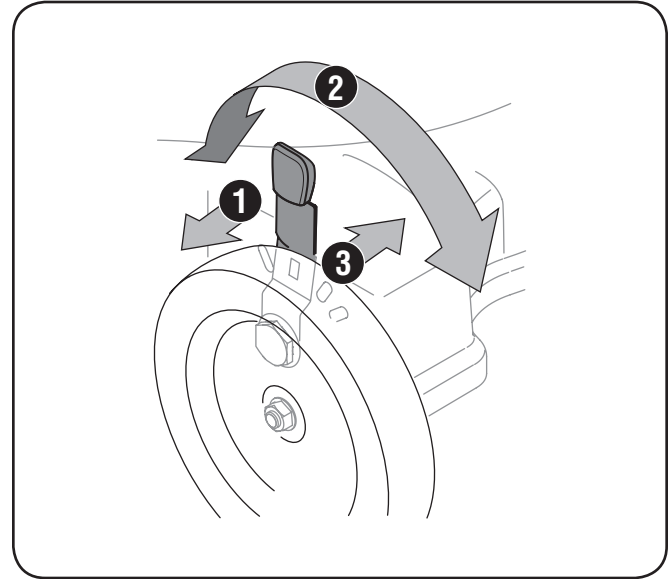

Figure 3-7
2. Slide the lever to the desired position for a change in cutting height. See Fig. 3-7.